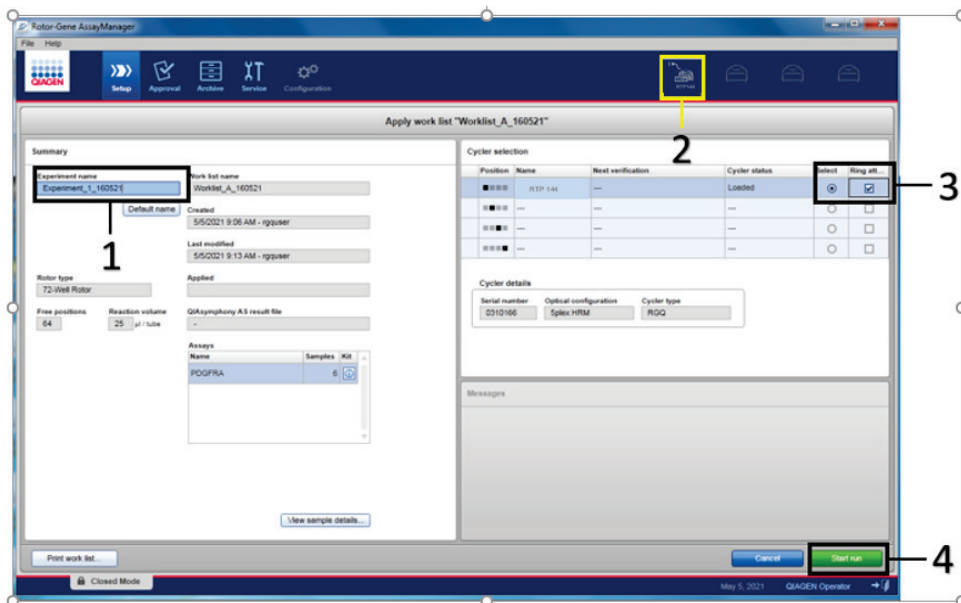

Figure 8. Applying work list and run start. 1 - Enter experiment name, 2 - Select the instrument, 3 - Ensure that Ring attached is selected, 4 - Start the run.
24. Enter the experiment name in the **Experiment name** (1) field. Select a cyclor from the Cyclor selection list (only compatible cyclors will be available) (2) and ensure that the **Ring attached** box (3) is checked. After all steps have been performed, click **Start run** (4). **Note:** A progress indicator will appear below the Rotor-Gene Q MDx icon at the top of right of the screen to indicate that the run has started (Figure 8).